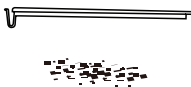

Figure 10
- 2) Clean up the sharpening dust drawer: as shown in Figure 10, empty out the sharpening dust.